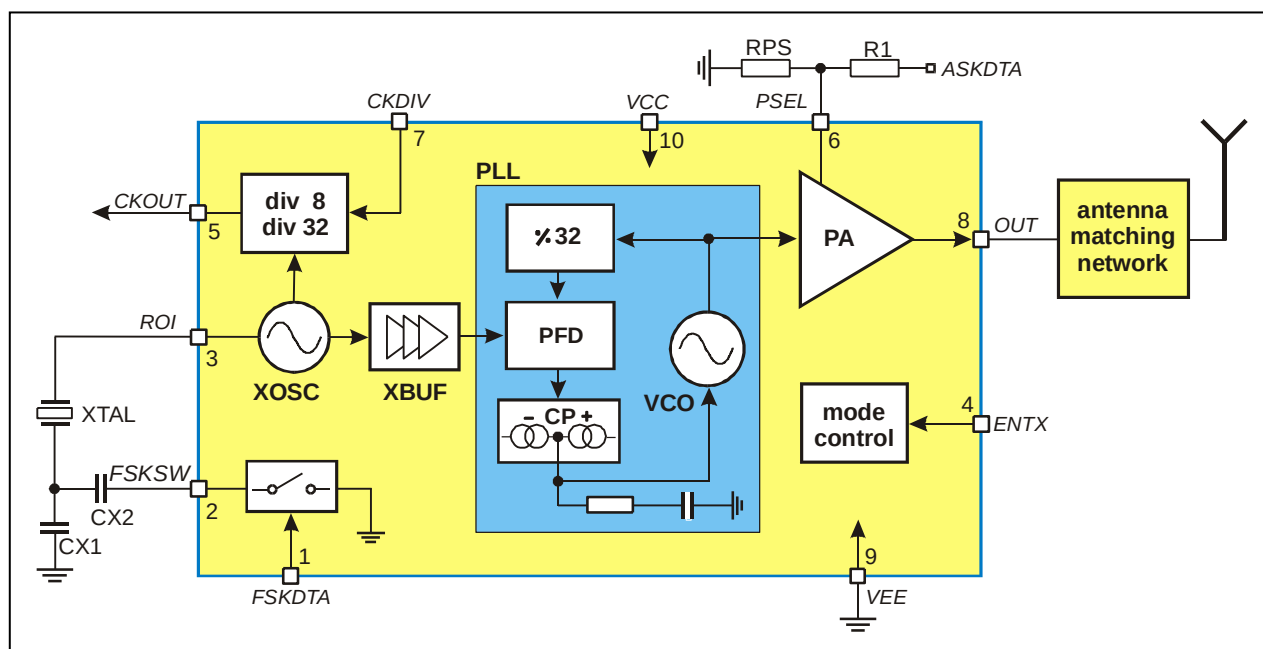

Fig. 1: Block diagram with external components
As depicted in Fig.1, the TH72036 transmitter consists of a fully integrated voltage-controlled oscillator (VCO), a divide-by-32 divider (div32), a phase-frequency detector (PFD) and a charge pump (CP). An internal loop filter determines the dynamic behavior of the PLL and suppresses reference spurious signals. A Colpitts crystal oscillator (XOSC) is used as the reference oscillator of a phase-locked loop (PLL) synthesizer. The VCO's output signal feeds the power amplifier (PA). The RF signal power P_{out} can be adjusted in four steps from $P_{out} = -11$ dBm to +9.5 dBm, either by changing the value of resistor RPS or by varying the voltage V_{PS} at pin PSEL. The open-collector output (OUT) can be used either to directly drive a loop antenna or to be matched to a 50Ω load. Bandgap biasing ensures stable operation of the IC at a power supply range of 1.95 V to 5.5 V.